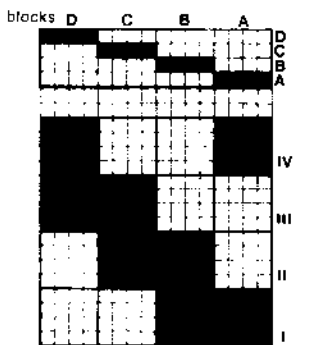

FIGURE 3
1. **Traditional order of the blocks:** The blocks are treadled in ascending or descending order. See Fig. 3. The block patterning relates to the drawdown of a $\frac{2}{1}$ twill.